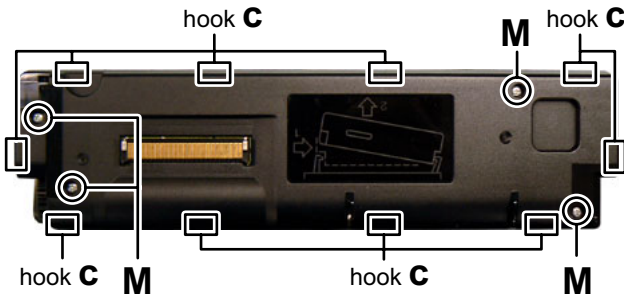

Fig.9
3.1.6 Removing the Switch board (See Fig.9)